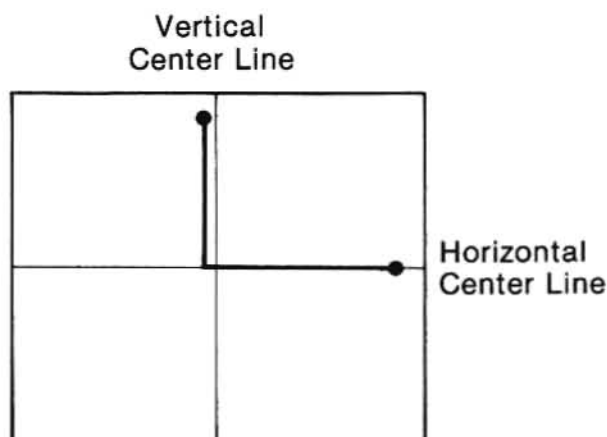

Figure 11
24. Install diode at output terminals you should see trace as displayed in **figure 11**.